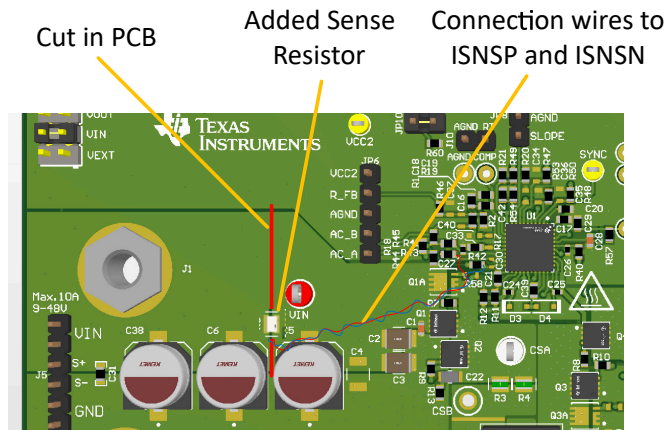
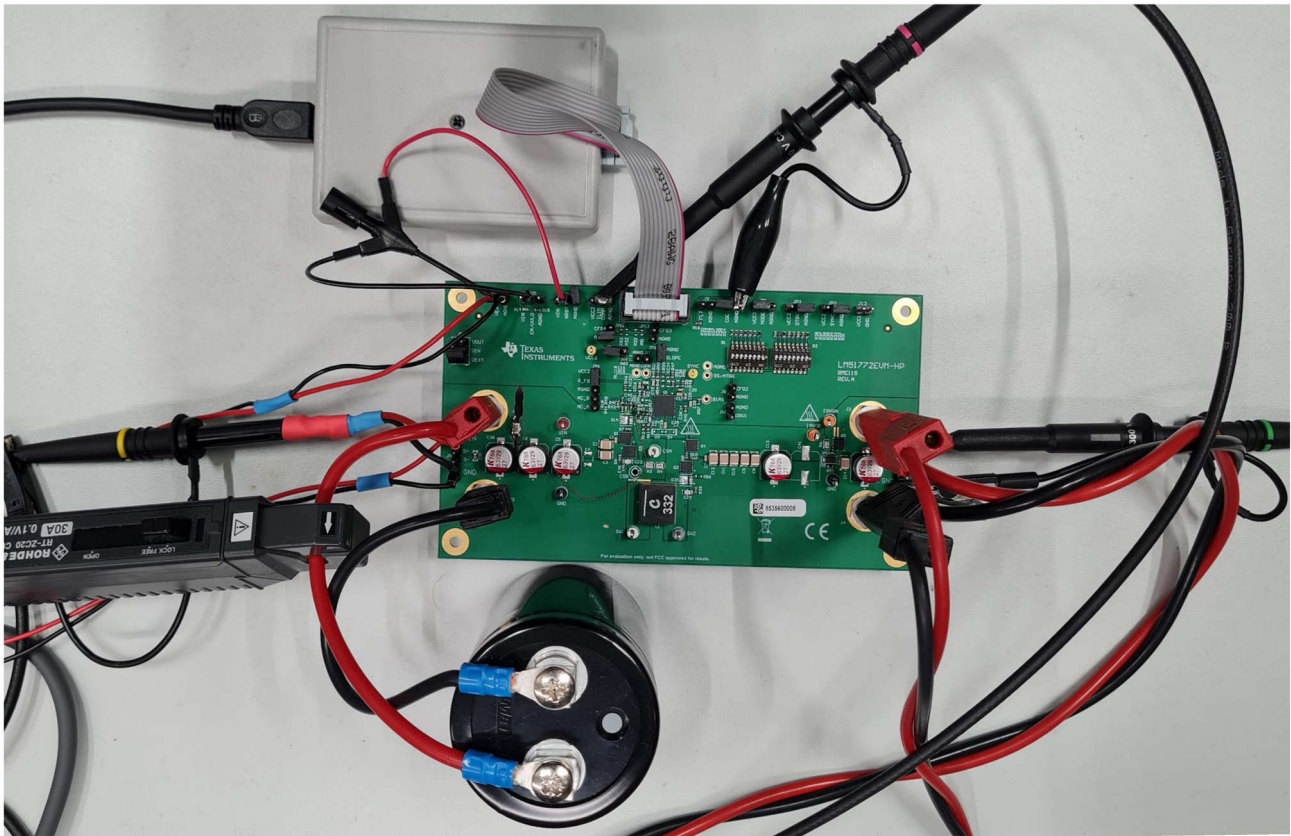

Figure 5-1. EVM Modifications
Figure 5-2. Hardware Setup
- Load on Application (V_{System}) = 0.5A (CC)
- The LM51772EVM-HP has the average current sense resistor assembled on the output side. This allows constant current control on the output side. As for this application, constant charging current into the storage capacitor is preferable the average current sense resistor must be on the input side of the board. The EVM has been modified for that. See Figure 5-1 and Figure 5-2 for board modifications.